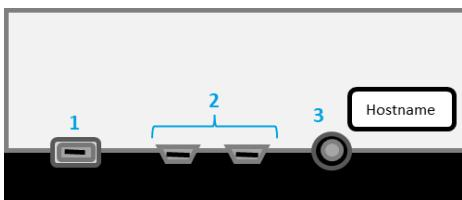
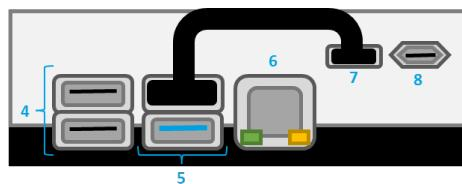
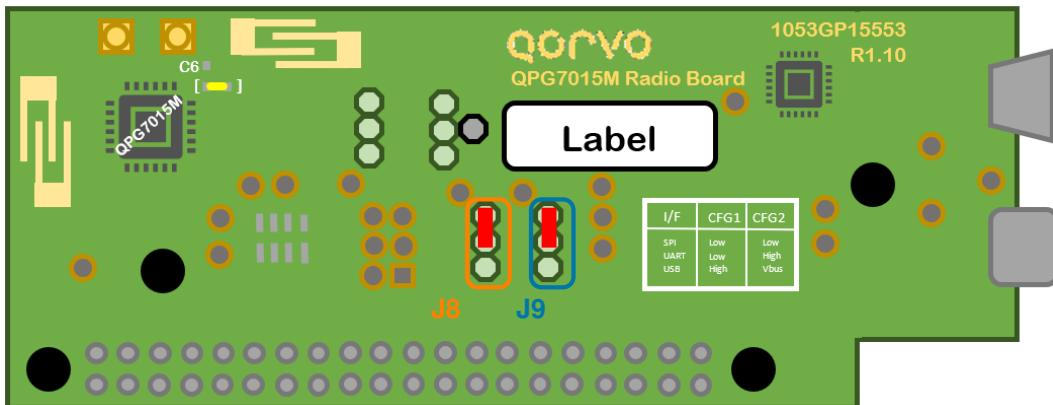

Figure 2.2: QPG7015M Gateway in Qorvo® IoT Dev Kit Pro front view
Figure 2.3: QPG7015M Gateway in Qorvo® IoT Dev Kit Pro right view
Figure 2.4: QPG7015M Terminal over Serial access
1. **Terminal over serial:** Connect the microUSB cable to port 8 shown in figure 2.3 and to your computer. Apply power to port 1 shown in figure 2.2. J8 en J9 should be configured as "RPi UART <> USB" as shown in figure 2.4. This should be already the case in the off-the-shelf QPG7015M Gateway in the Qorvo® IoT Dev Kit Pro.
2. **Secure SHell (SSH):** Connect the QPG7015M Gateway to your local area network using an ethernet cable on port 6, shown in figure 2.3 and apply power to port 1 shown in figure 2.2. From a computer that has an SSH client application installed the QPG7015M Gateway can be accessed over SSH by running from a command prompt (Windows) or terminal (Linux):
The hostname can be found on the casing as depicted in figure 2.2. The username of the DK is *pi*, the password is *raspberry*.
3. **Keyboard and screen:** Connect a USB keyboard to port 4 or 5 shown in figure 2.3 and attach a screen to a HDMI micro port 2 shown in figure 2.2. Please ensure the screen is connected before applying power to port 1 of the DK. The user of the DK is *pi*, the password is *raspberry*.
! In general we recommend to always attach an ethernet cable to port 6, shown in figure 2.3 and apply power to port 1, shown in figure 2.2. The ethernet connection gives the RPi connection to the internet and allows following advantages: